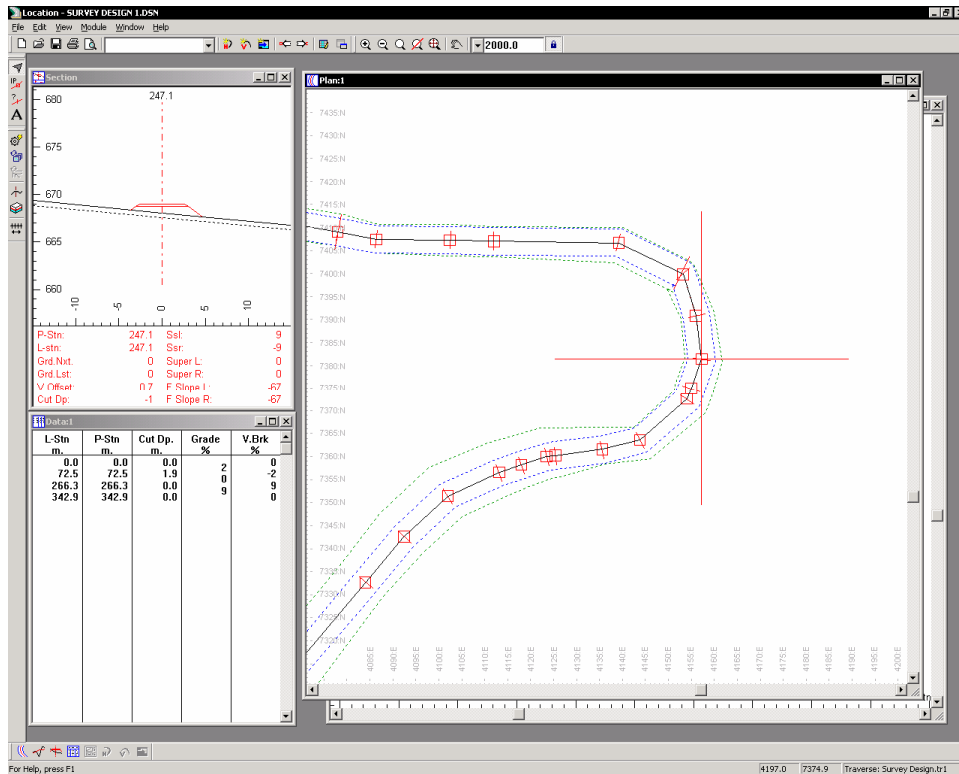

Figure 3.7: Zoomed Plan View With Scale Locked
16. Pick the *Select Tool* button  from the Mode Tools toolbar and click on the point shown in the Figure 3.7.